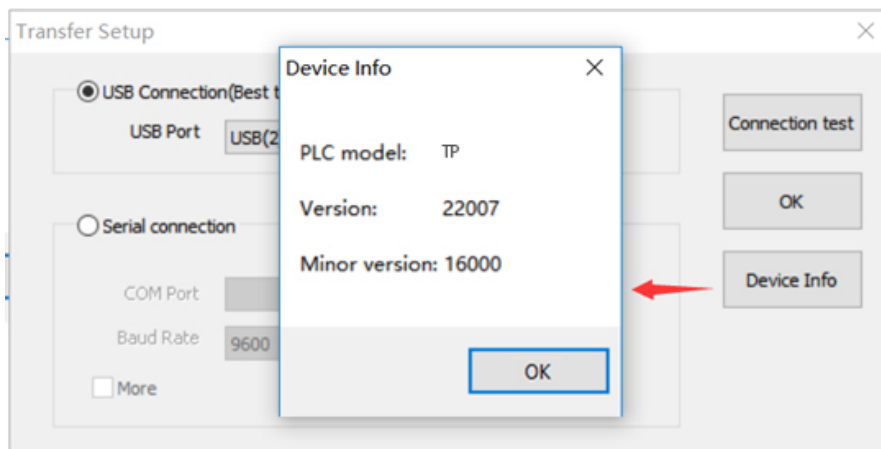

Figure 5-6
- Click [Connection test] for communication testing, the testing tip message as Figure 5-6 shows,